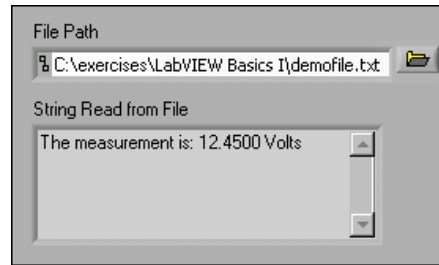

Figure 9.17
1. Open a blank VI and build the front panel shown in Figure 9.17 using the file path control located on the Controls»Text Controls palette and a string indicator located on the Controls»Text Indicators palette.